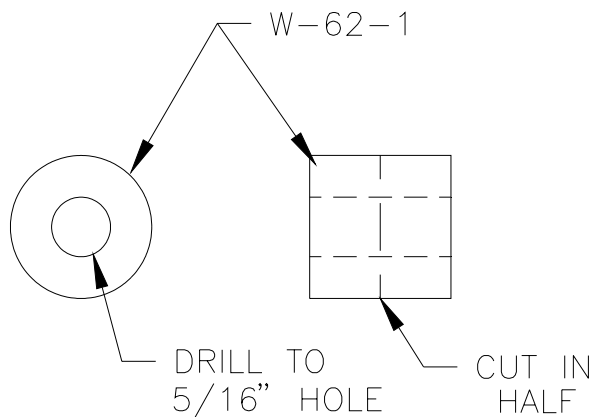

Figure 20.4.5
8) Drill out the hole in a W-62-1 to 5/16". Cut the W-62-1 in half so that you have two equal parts of approximately 3/8" long. Figure 20.4.5.